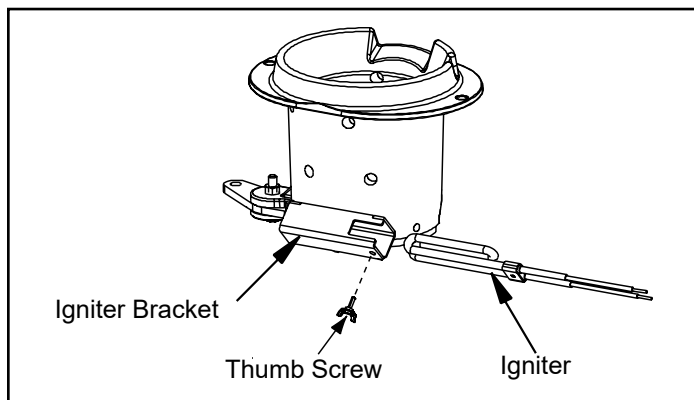

Figure 24.1
2. The wire leads to the igniter are connected to the wire harness with 1/4 inch (6mm) male / female spade connectors. These wires will pull forward approximately 4 to 5 inches (102mm to 127mm) through the grommet at the back of the ash drawer chamber. Disconnect the spade connections and remove the igniter from the chamber. Loosen the thumb screw and slide igniter out (**Figure 24.1**).